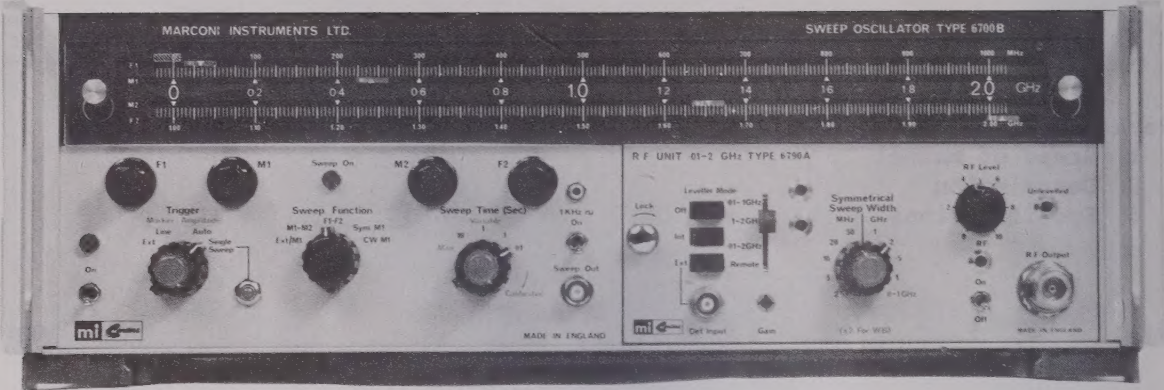

Fig. 1 Sweep Oscillator 6700B with RF Unit 6790A installed
2. The r.f. units are designed to be used in conjunction with the Marconi Instruments type 6700B Microwave Sweep Oscillator to provide a sweepable range of 10 MHz to 18.0 GHz. A typical r.f. unit installed in a 6700B Sweep Oscillator is shown in Fig.1. The plug-in r.f. unit is an integral part of the sweep oscillator circuitry and must be installed in the front panel compartment of the mainframe to operate. Available r.f. units covering nine frequency ranges are listed in Tables 1 and 2. All standard r.f. units are designed for external levelling. Optional r.f. units with internal levelling are also available, except for type 6790A in which internal levelling is a standard feature.